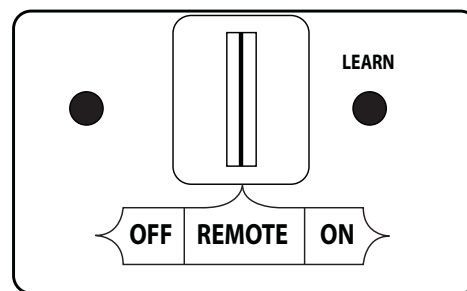
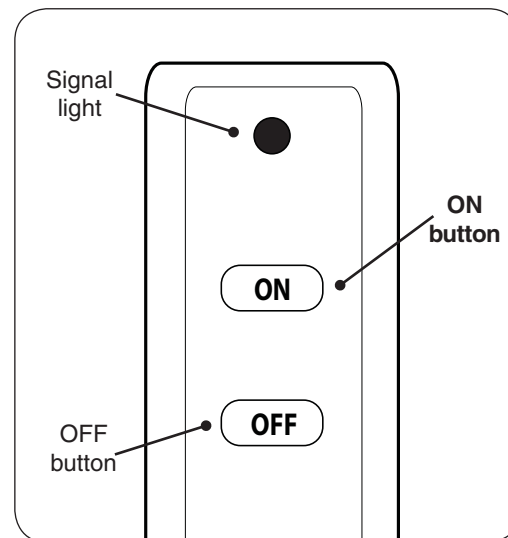

Fig. 27-1 Remote receiver detail (REMOTE)
Fig. 27-2 Remote transmitter detail
1. Locate the 3-position switch on the remote receiver (see Fig. 27-1), and slide the switch to the **REMOTE** position.
**Note:** Ensure that the ON/OFF switch at the front of the switch box is in the **OFF (O)** position.
2. Locate the remote transmitter and press the **ON** button (see Fig. 27-2). The ignition sequence will begin.